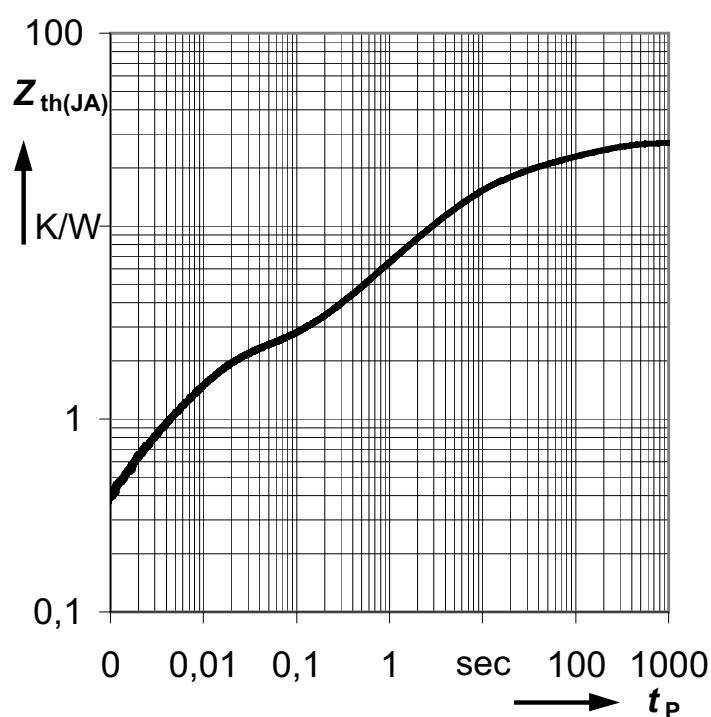

Figure 4 Transient Thermal Impedance $Z_{th(JA)}=f(t_p)$ ⁴⁾
4) Specified R_{thja} value and **Figure 4** are according Jedec JESD51_7 at natural convection on FR4 2s2p board. The BTS50060-1EGA was measured on a 76.2 x 114.3 x 1.6 mm board with 2 inner copper layers (2 x 70µm Cu, 2 x 35µm Cu) applying power losses of 1.4W at the channel. According to JESD51-5 a thermal via array under the exposed pad contacted the first inner copper layer. $T_a = 25^\circ\text{C}$.
Figure 4 shows the typical transient thermal impedance of BTS50060-1EGA.